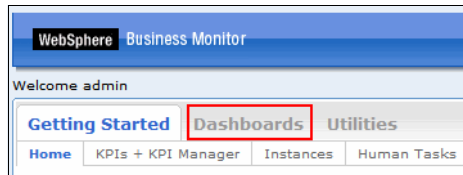

Figure 3-62 Select Dashboards tab
3. Click the **Dashboards** tab (Figure 3-62).